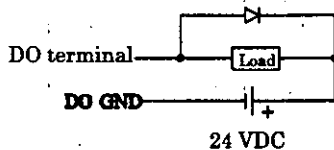

Fig. 10.17 Surge Voltage Suppression by a Diode
- When connecting an inductive load, connect a diode in parallel to the load not cause excess output terminal voltage (Fig. 10.17). The maximum voltage rating is 35 V.